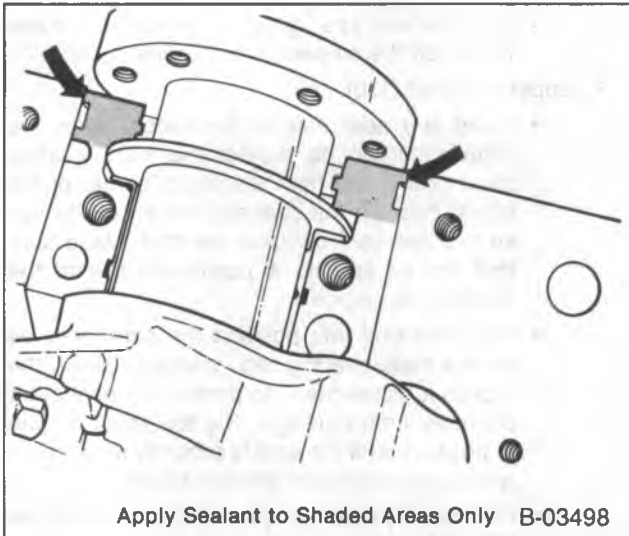

Figure 54—Applying Sealant to the Block (7.4L Engines)
- On 7.4 L engines, apply a brush-on type oil sealing compound to the mating surface of the block and cap (figure 54). Do not allow any sealant on either crankshaft or rear oil seal.